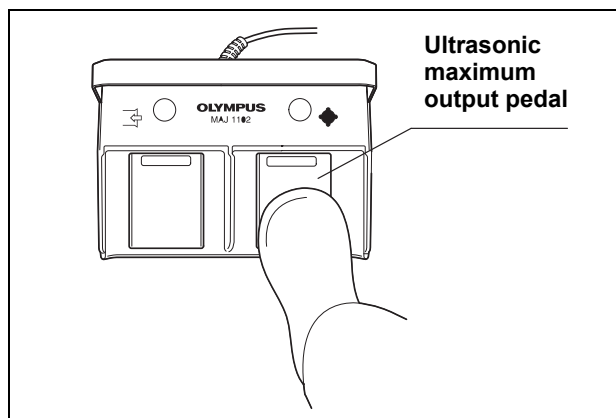

Figure 5.10
4. While stepping on the ultrasonic maximum output pedal of the foot switch (MAJ-1102) as shown in Figure 5.10, confirm that the warning tone is generated and the output is disabled.